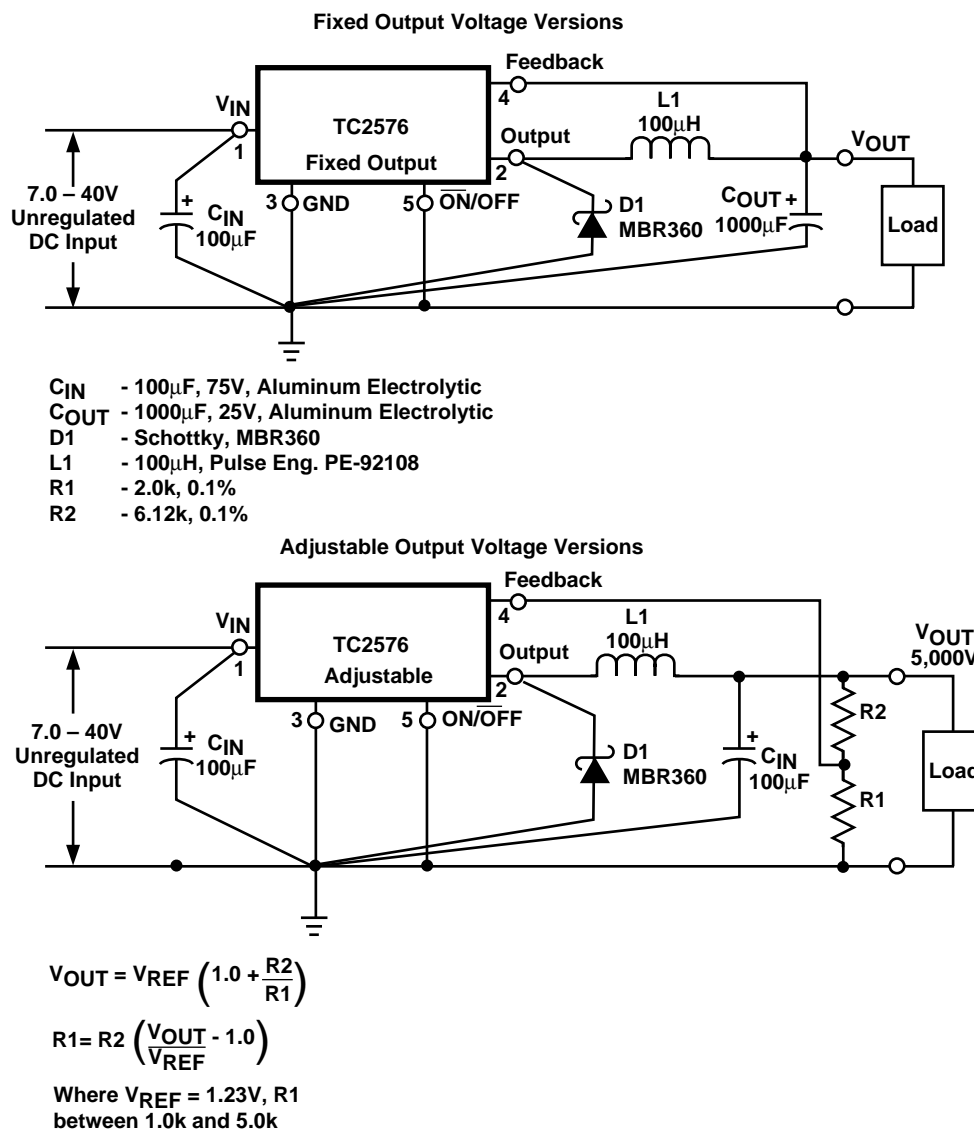

Figure 2. Typical Test Circuit
TC2576-3.3 [(Note 1) Test Circuit Figure 2]
TC2576-5 [(Note 1) Test Circuit Figure 2]
TC2576-12 [(Note 1) Test Circuit Figure 2]
TC2576-Adjustable Version [(Note 1) Test Circuit Figure 2]
- NOTES:** 1. External components such as the catch diode, inductor, input and output capacitors can affect the switching regulator system performance. When the TC2576 is used as shown in the Figure 2 test circuit, the system performance will be as shown in the system parameters section of the Electrical Characteristics.
As in any switching regulator, the layout of the printed circuit board is very important. Rapidly switching currents associated with wiring inductance, stray capacitance and parasitic inductance of the printed circuit board traces can generate voltage transients which can generate electromagnetic interferences (EMI) and affect the desired operation. As indicated in the Figure 2, to minimize inductance and ground loops, the length of the leads indicated by heavy lines should be kept as short as possible.
1. Programming Output Voltage To select the right programming resistor R1 and R2 value (see Figure 2) use the following formula: $V_{OUT} = V_{REF} \left(1.0 + \frac{R2}{R1} \right) \text{ where } V_{REF} = 1.23V$ Resistor R1 can be between 1.0kΩ and 5.0kΩ. (For best temperature coefficient and stability with time, use 1% metal film resistors). $R2 = R1 \left(\frac{V_{OUT}}{V_{REF}} - 1.0 \right)$	1. Programming Output Voltage (selecting R1 and R2) Select R1 and R2 $V_{OUT} = 1.23 \left(1.0 + \frac{R2}{R1} \right) \text{ Select } R1 = 1.8k\Omega$ $R2 = R1 \left(\frac{V_{OUT}}{V_{REF}} - 1.0 \right) = 1.08k \left(\frac{8.0V}{1.23V} - 1.0 \right)$ R1 = 9.91kΩ, choose a 9.88kΩ metal film resistor.